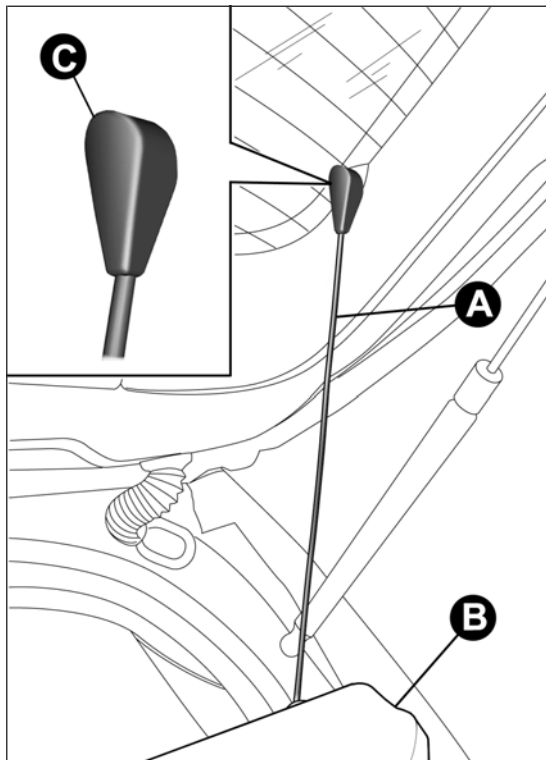

fig. 73
- free the ends of the two parcel shelf B mounting links A fig. 73 by removing the eyelets C from the mounting pins;